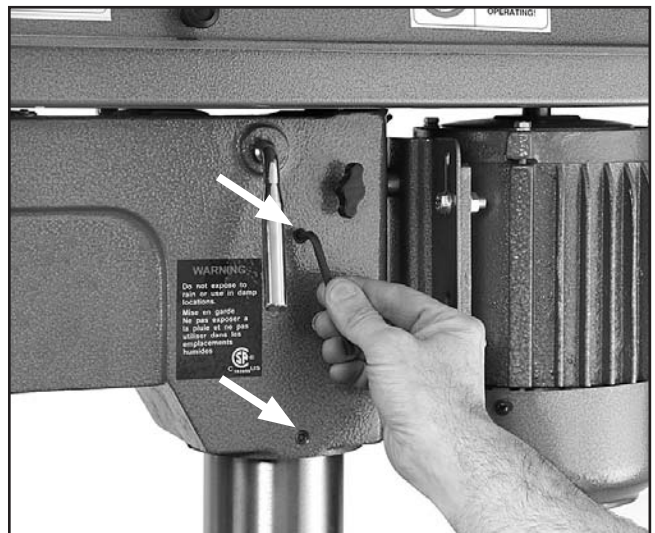

Figure 14. Securing headstock to column.
8. Tighten the two headstock set screws to the column, as shown in **Figure 14**.